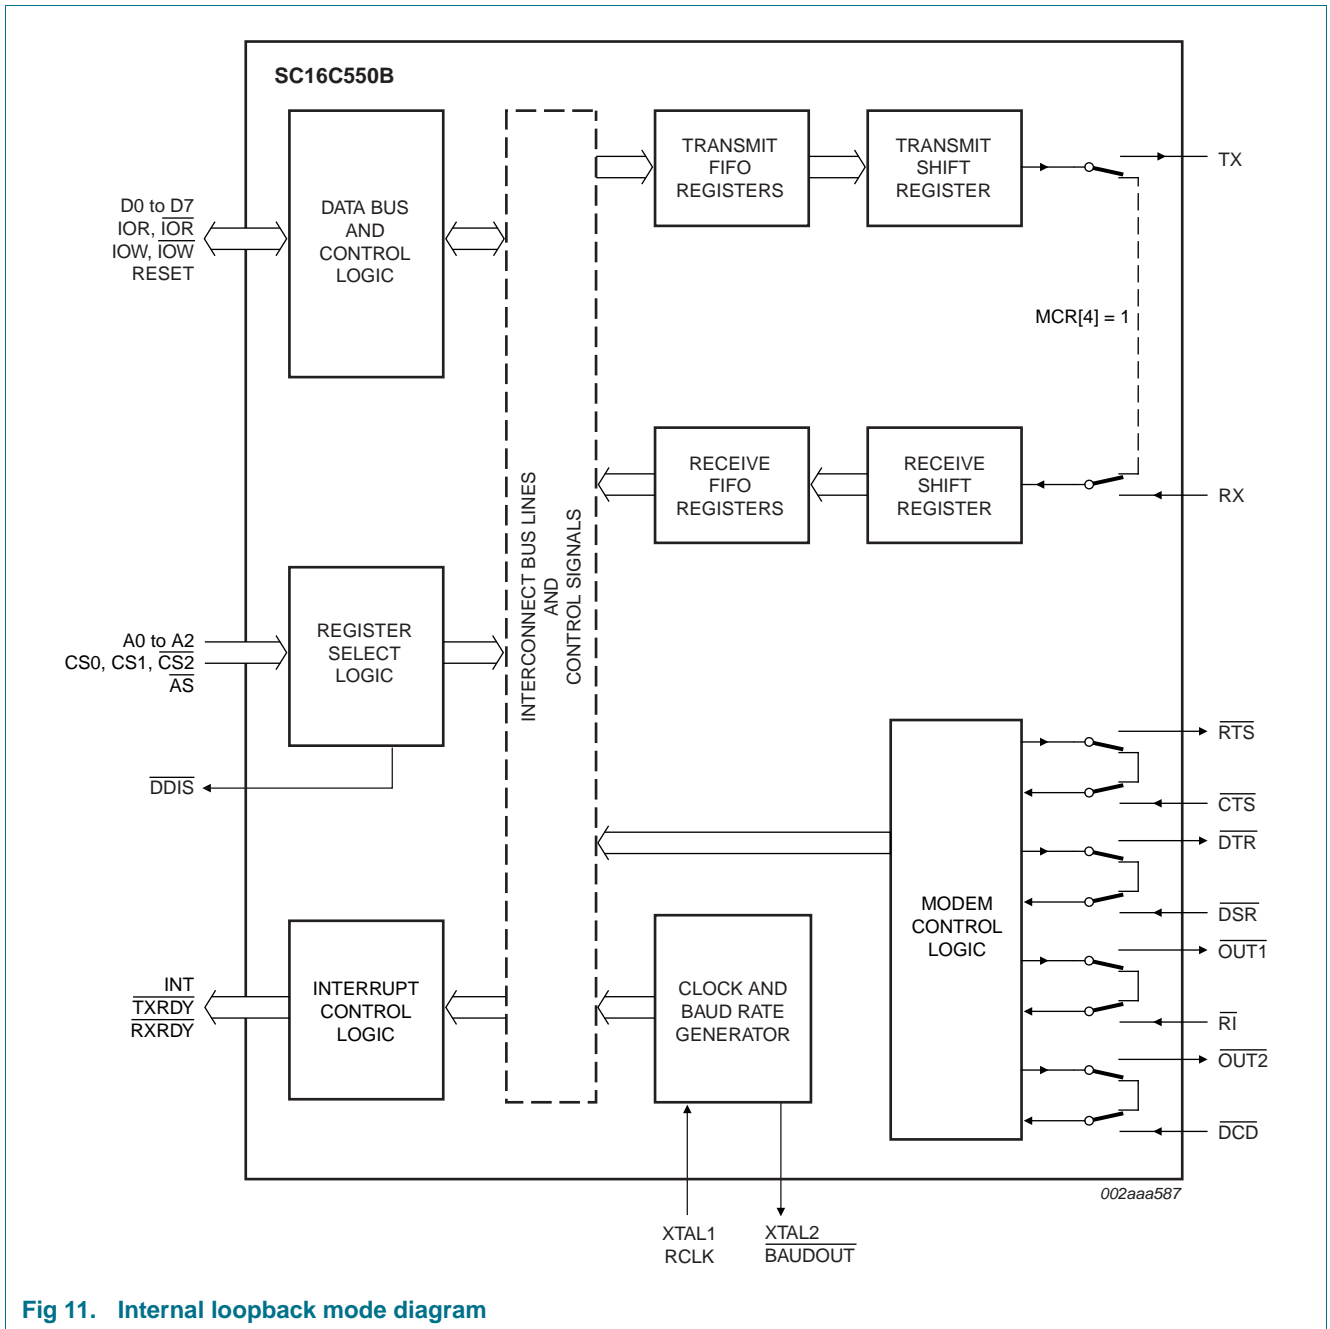

Fig 11. Internal loopback mode diagram
The internal loopback capability allows on-board diagnostics. In the loopback mode, the normal modem interface pins are disconnected and reconfigured for loopback internally. MCR[3:0] register bits are used for controlling loopback diagnostic testing. In the loopback mode, OUT1 (bit 2) and OUT2 (bit 3) in the MCR register control the modem RI and DCD inputs, respectively. MCR signals DTR and RTS (bits 0:1) are used to control the modem CTS and DSR inputs, respectively. The transmitter output (TX) and the receiver input (RX) are disconnected from their associated interface pins, and instead are connected together internally (see Figure 11). The inputs CTS, DSR, DCD, and RI are disconnected from their normal modem control input pins, and instead are connected internally to DTR, RTS, OUT1 and OUT2. Loopback test data is entered into the transmit holding register via the user data bus interface, D0 to D7. The transmit UART serializes the data and passes the serial data to the receive UART via the internal loopback connection. The receive UART converts the serial data back into parallel data that is then made available at the user data interface D0 to D7. The user optionally compares the received data to the initial transmitted data for verifying error-free operation of the UART TX/RX circuits.